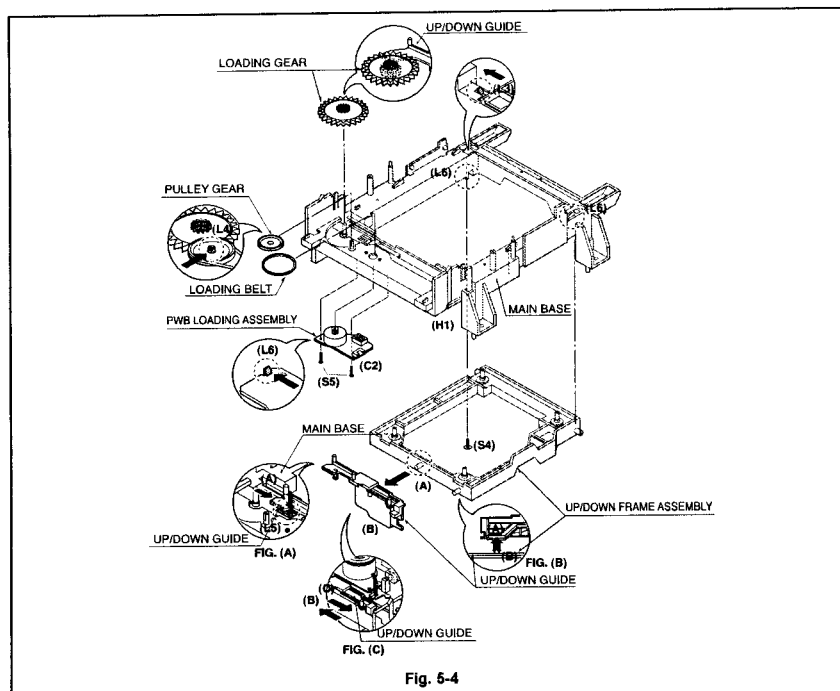

Fig. 5-4
5. Frame Assembly Up/Down (Fig. 5-4)**Note**
- When reassembling move the Guide Up/Down in direction of arrow (C) until it is positioned as Fig. (C).
- When reassembling insert (A) portion of the Frame Assembly Up/Down in the (B) portion of the Guide Up/Down as Fig. (B)
6. Belt Loading (Fig. 5-4)**Note**
7. Gear pulley (Fig. 5-4)
- 1) Unlock the Locking Tab (L4) in direction of arrow (B) and then separate the Gear Pulley from the Base Main.
8. Gear Loading (Fig. 5-4)**9. Guide Up/Down (Fig. 5-4)**
10. PWB Assembly Loading (Fig. 5-4)**Note**
11. Base Main (Fig. 5-4)